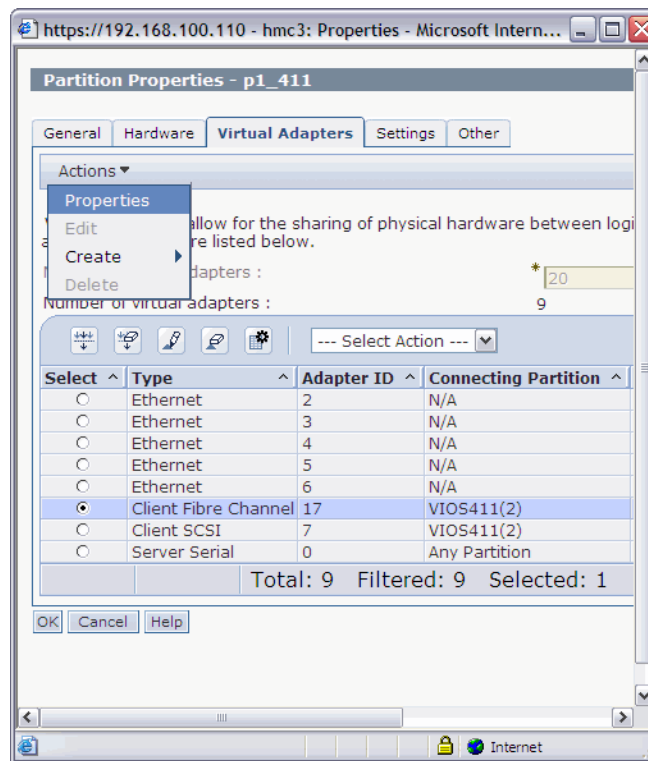

Figure 7-9 Select virtual Fibre Channel client adapter properties
- a. On the HMC select the appropriate virtual I/O client partition, then click **Task** \varnothing **Properties**. Expand the **Virtual Adapters** tab, select the **Client Fibre Channel** client adapter, then select **Actions** \varnothing **Properties** to list the properties of the virtual Client Fibre Channel client adapter, as in Figure 7-9.